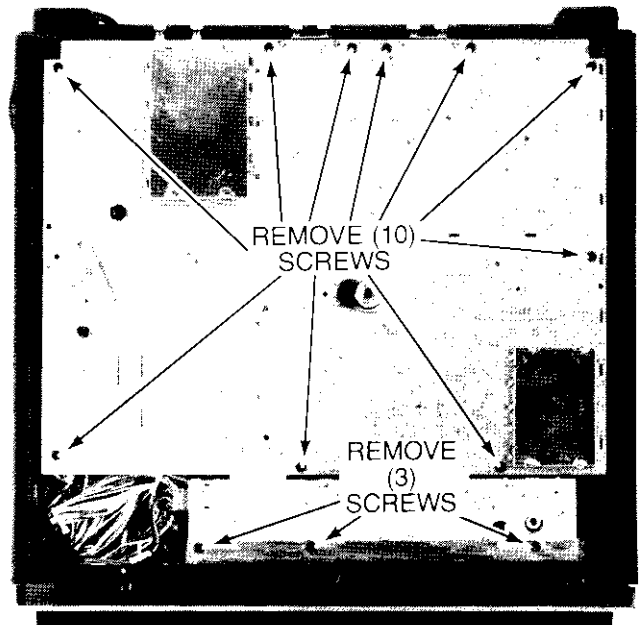

Fig. 11—Master Circuit Board
2. Remove thirteen (13) pozi-drive (+ head) screws Fig. 11.
**Caution:** Replace circuit board mounting screws only in holes from which they were removed (Fig. 11).